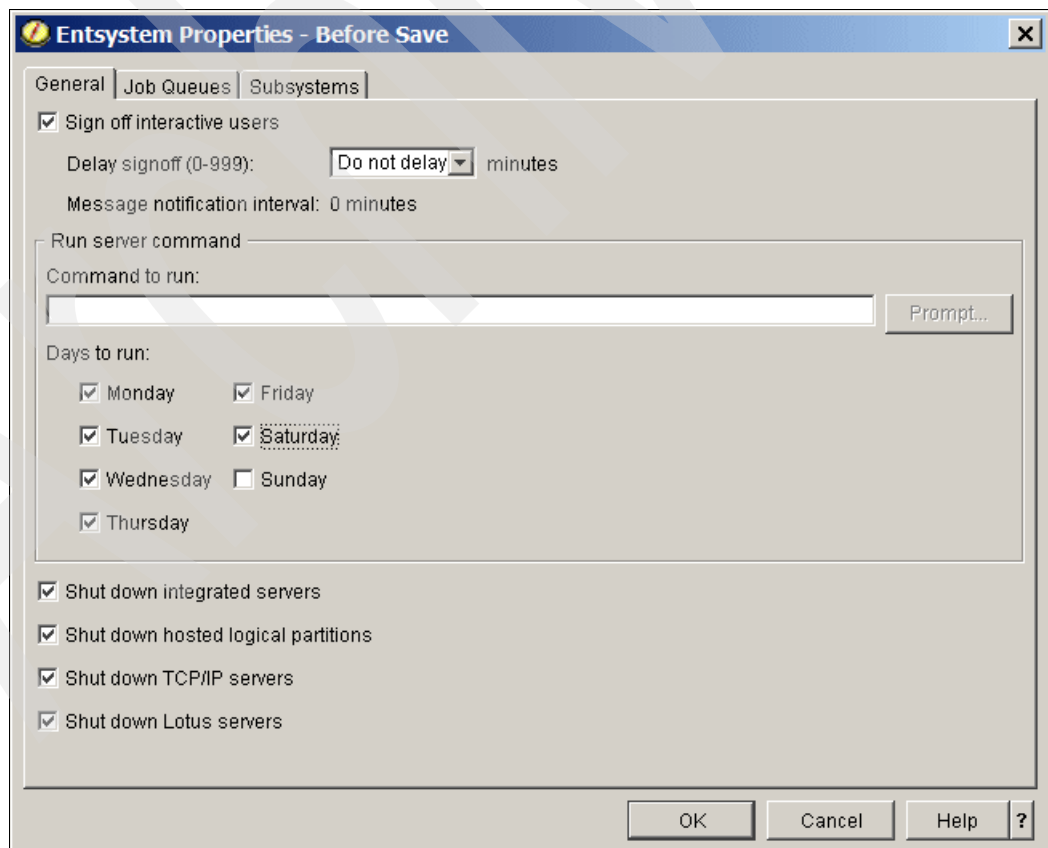

Figure 6-47 Adjust schedule for save entire system
- Still in the window *New Policy Based on *System*, click the button **Before**. This displays the panel, *Backup Policy Properties - Before Save*, where you can adjust the default days on which the entire system is scheduled to save. In our example we want to take a backup of the entire system every day except Sunday, so we un-check the box at Sunday, as shown in Figure 6-47. After adjusting the schedule, click **OK**.